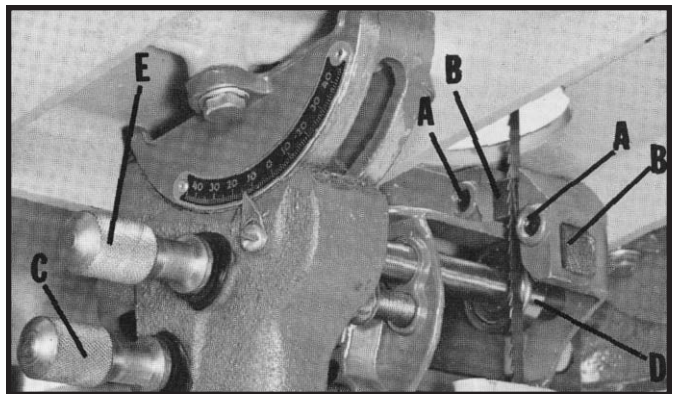

Fig. 24
1. Loosen the two screws (A) Fig. 24, and move the guides (B) as close as possible to the side of the blade, being careful not to pinch the blade. Then tighten screws (A).
2. The front edge of the guide blocks (B) should be adjusted so they are just behind the "gullets" of the saw teeth by turning the knurled knob (C) Fig. 24.
3. The lower blade support bearing (D) Fig. 24, should be adjusted so it is about $1/64$ behind the back of the blade by turning the knurled knob (E).